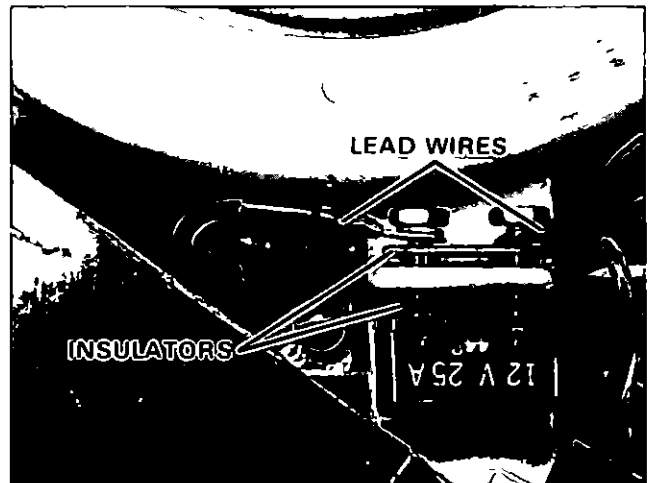

Figure 27. Installing Circuit Breaker.
- 2 Connect lead wires Figure 27